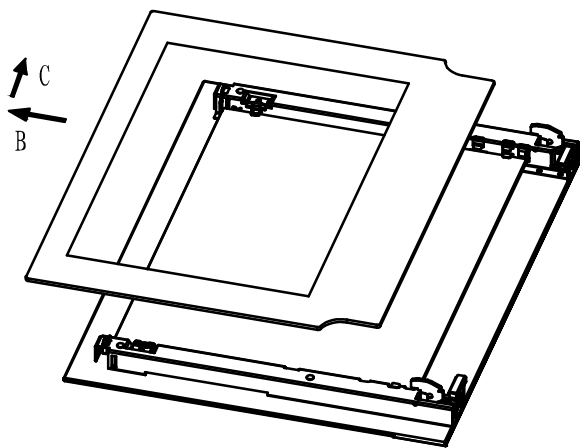

Fig.2
- Now, shutting the door slightly, you can lift it out by pulling out the hooks “A” as shown in figure 2.
2. Take out inner glass slowly (Fig.2)